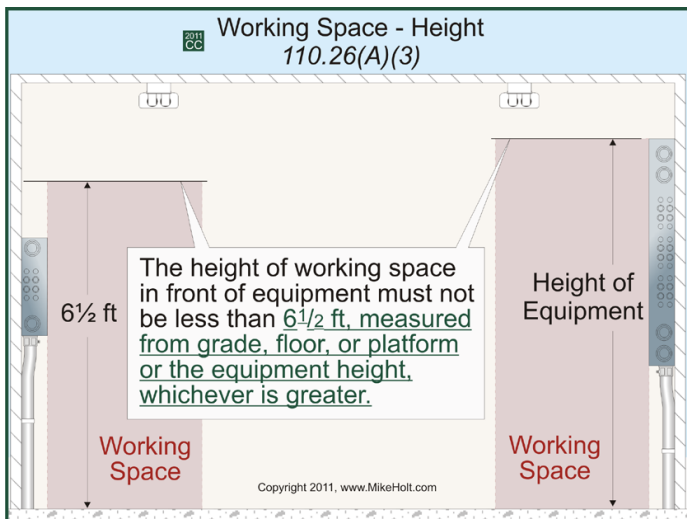

Figure 110-26
(3) Height of Working Space (Headroom). The height of the working space in front of equipment must not be less than 6½ ft, measured from the grade, floor, platform, or the equipment height, whichever is greater. Figure 110-26